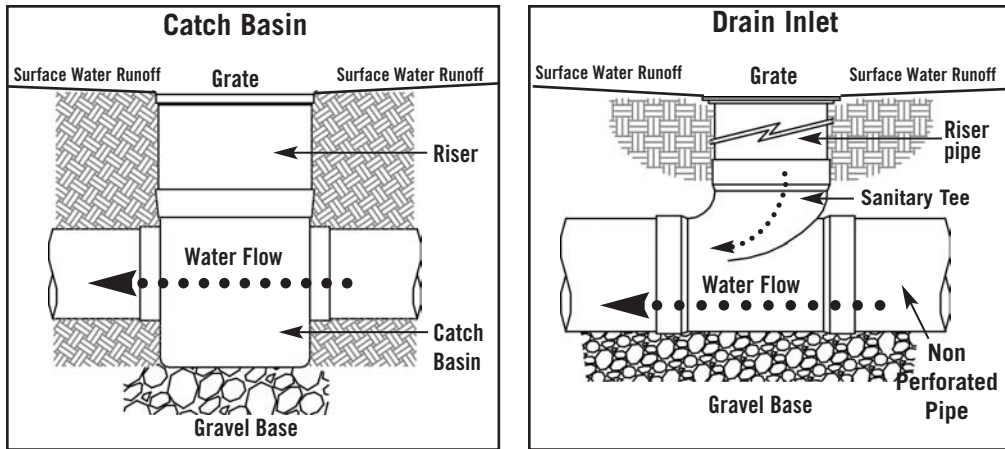

Figure 7-1: Surface drains
1. Choose an inlet or basin size according to the amount of rainfall, surface area and soil type. It may be necessary to install more than one inlet or basin to accommodate excessive runoff or a combination of low spots. An inlet is often installed directly on top of the drain line (**Figure 7-1**). Use catch basins in applications where it is necessary to collect debris from runoff water in a sump area (**Figure 7-2**). This helps minimize clogging of drainage pipes.